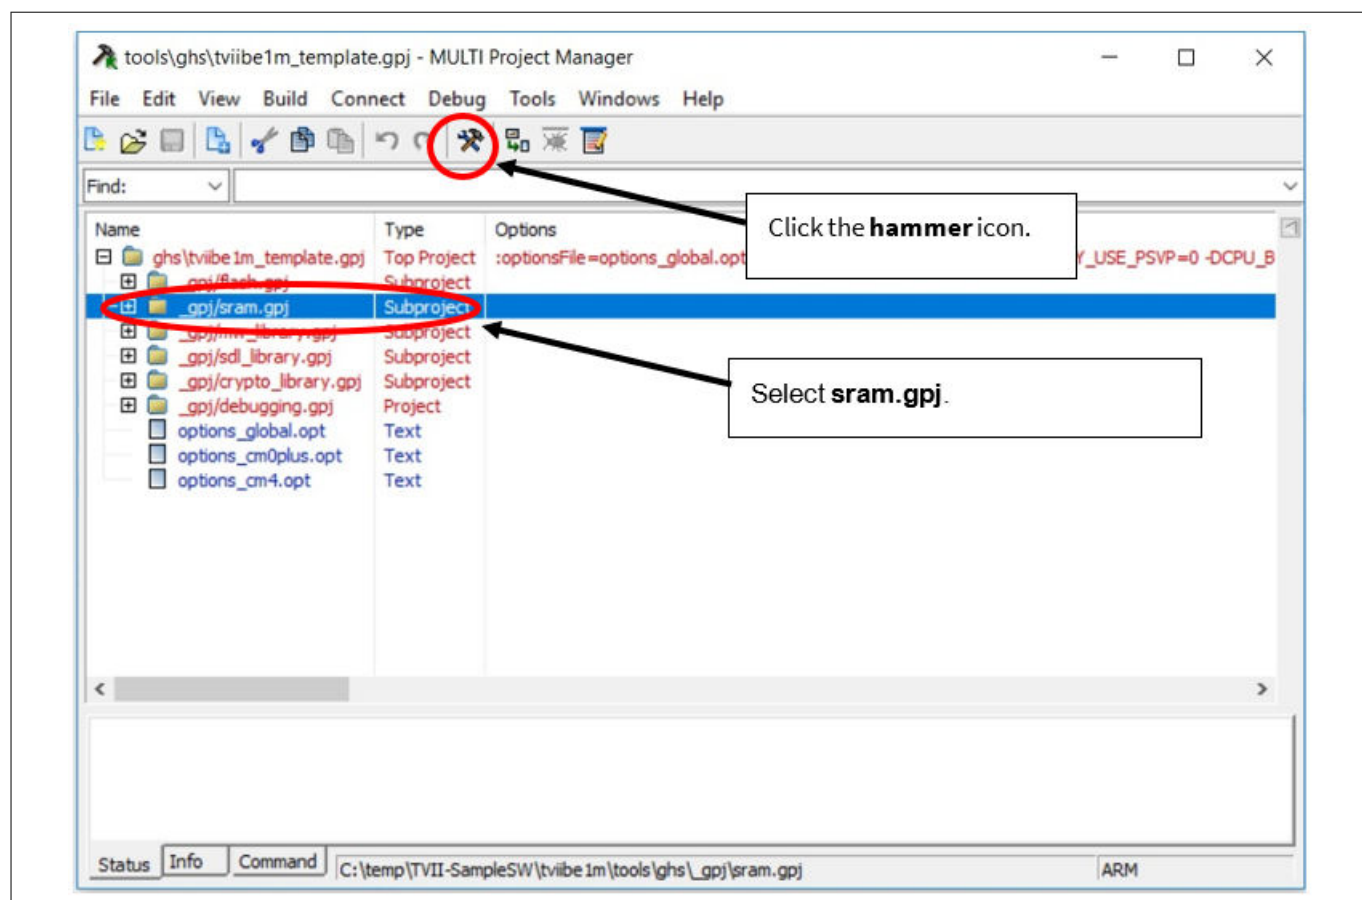
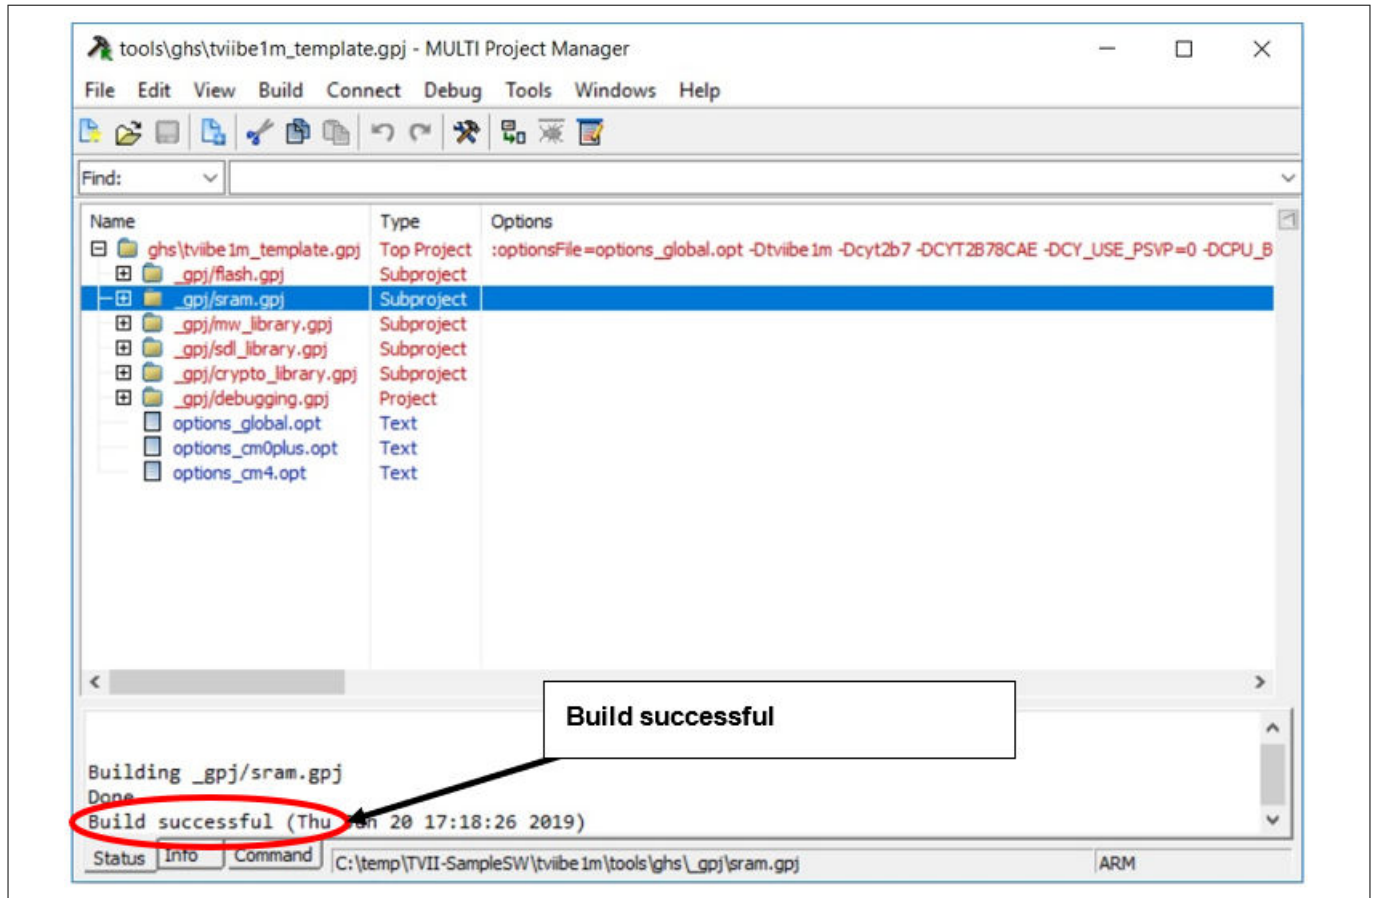

Figure 9 Build the project of SDL project
Figure 10 Build successful of the project of SDL project
1. For the build, select *sram.gpj* and click the **hammer** icon as shown in Figure 9. The build starts and successful messages appear as shown in Figure 10.